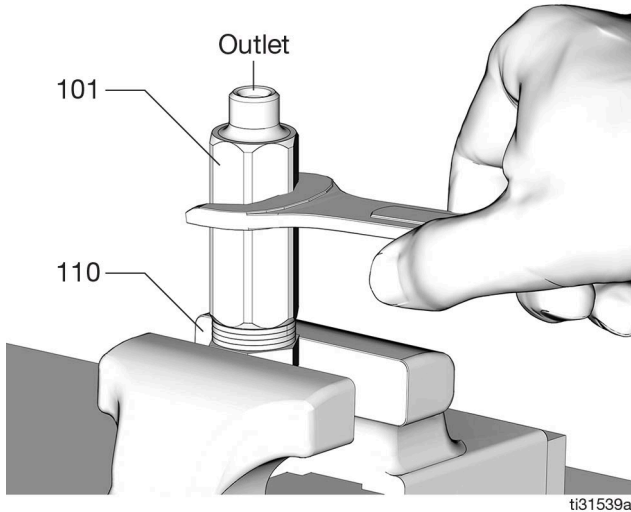

FIG. 46
- Add or remove output spacers (110) (FIG. 46) from the injector valve assembly.